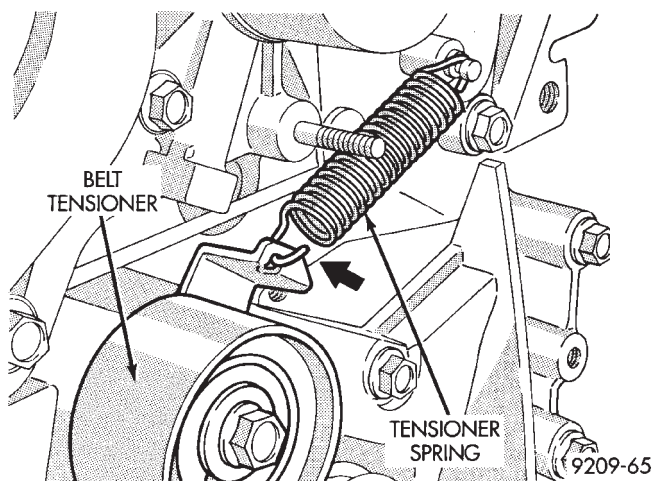

Fig. 16 Timing Belt Tensioner
(2) Loosen timing belt tensioner bolt (Fig. 16) and remove timing belt.
- (1) Install timing belt tensioner and tensioner spring.
- (2) Hook spring upper end to water pump pin and lower end to tensioner bracket with hook out (Fig. 16).